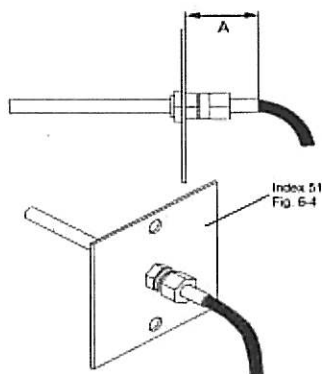
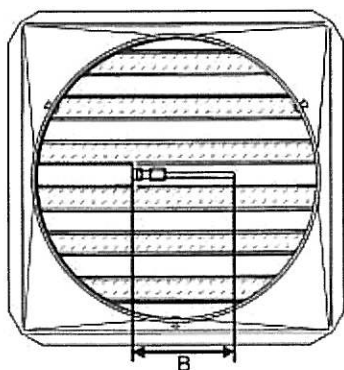

Figure 5-14. Sensor (SFC) Adjustment
Figure 5-15. Sensor (SBC) Adjustment
4. Install chamber sensor (SFC) to dimension A =  $1 \frac{1}{4}$ " (32 mm) as shown in Figure 5-14. Install outlet air sensor (SBC) to dimension B =  $3 \frac{1}{2}$ " (90 mm) as shown in Figure 5-15. Tighten sensor restraints (24 and 81, Figure 6-4). If damaged, replace sensor restraints.